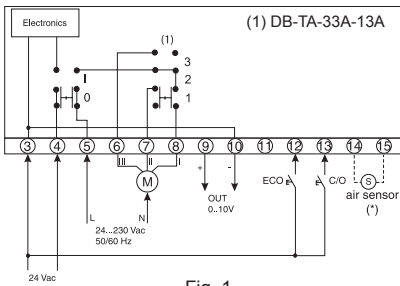

Fig. 1
- with a remote centralized switch connected between terminals 3 and 13 (see figure 1, contact opened = cooling mode, contact closed = heating mode)